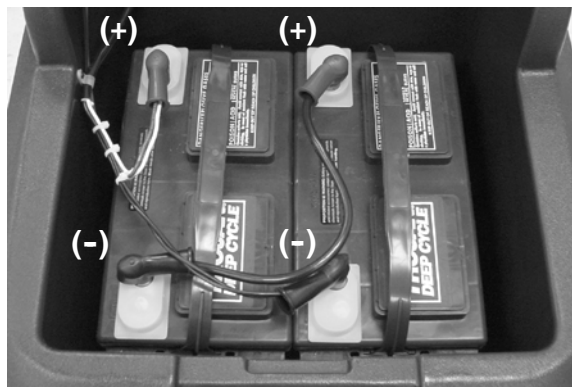

FIG. 2
3. Carefully install batteries into compartment and arrange battery posts as shown. Connect the battery cables to the battery posts as shown, RED TO POSITIVE & BLACK TO NEGATIVE. Use the battery post covers and rubber boots supplied (Figure 2).